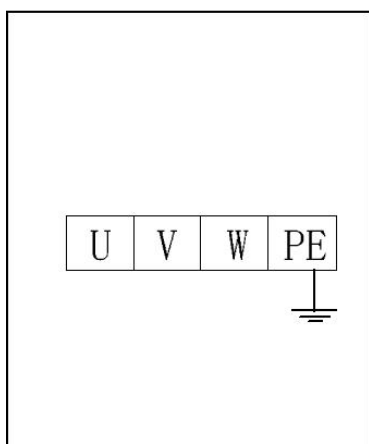

Fig 11
- Connection of power line: Connect the 380V three-phase four-wire power line (cable of 3×2.5MM² + 1×1.5MM²) to the control cabinet interfaces L1, L2, L3 and input terminal, and connect the PE ground wire to the labeled ground bolt first, and then to the labeled ground bolts at the bottom of the two platforms (Fig. 11).